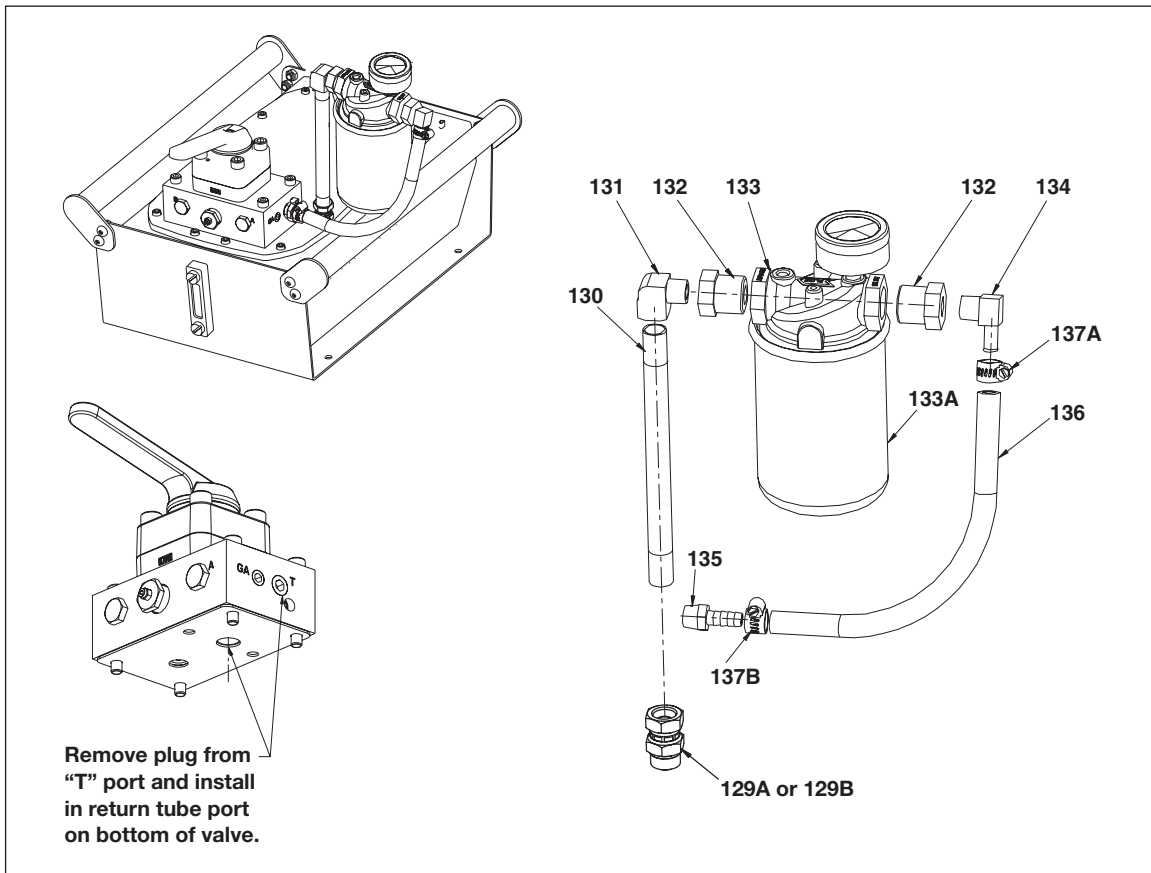

Figure 2 - ZPF Standard Filter Kit
**Note:** Parts shown above are included in the ZPF High Flow Filter Kit. This kit is to be used on pumps manufactured after March 1, 2007. When ordering filter parts for older pumps, refer to Figure 2 on the next page.
Repair Parts List for Figure 2
Assemble the ZPF Standard Filter Kit as described in the following steps. Refer to Figure 2 for part descriptions and locations.